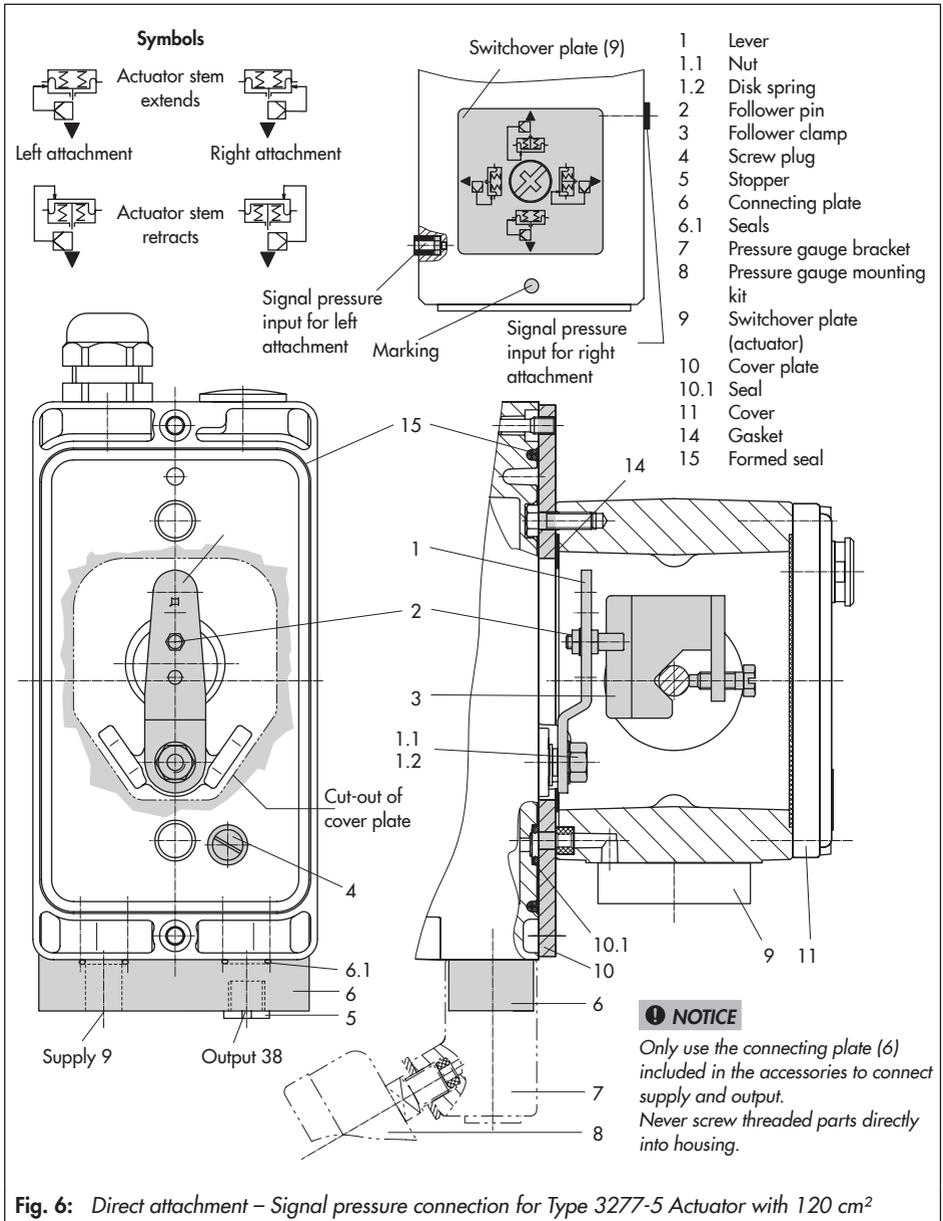

Fig. 6: Direct attachment – Signal pressure connection for Type 3277-5 Actuator with 120 cm2
##### Actuator with 120 cm2 (see Fig. 6)
3. Mount connecting plate (6) or pressure gauge bracket (7) with pressure gauges on the positioner, making sure the two seals (6.1) are seated properly.
4. Remove screw plug (4) on the back of the positioner and seal the signal pressure output (38) on the connecting plate (6) or on the pressure gauge bracket (7) with the stopper (5) included in the accessories.
5. Place follower clamp (3) on the actuator stem, align it and screw tight so that the mounting screw is located in the groove of the actuator stem.
6. Mount cover plate (10) with narrow side of the cut-out (Fig. 6, on the left) pointing